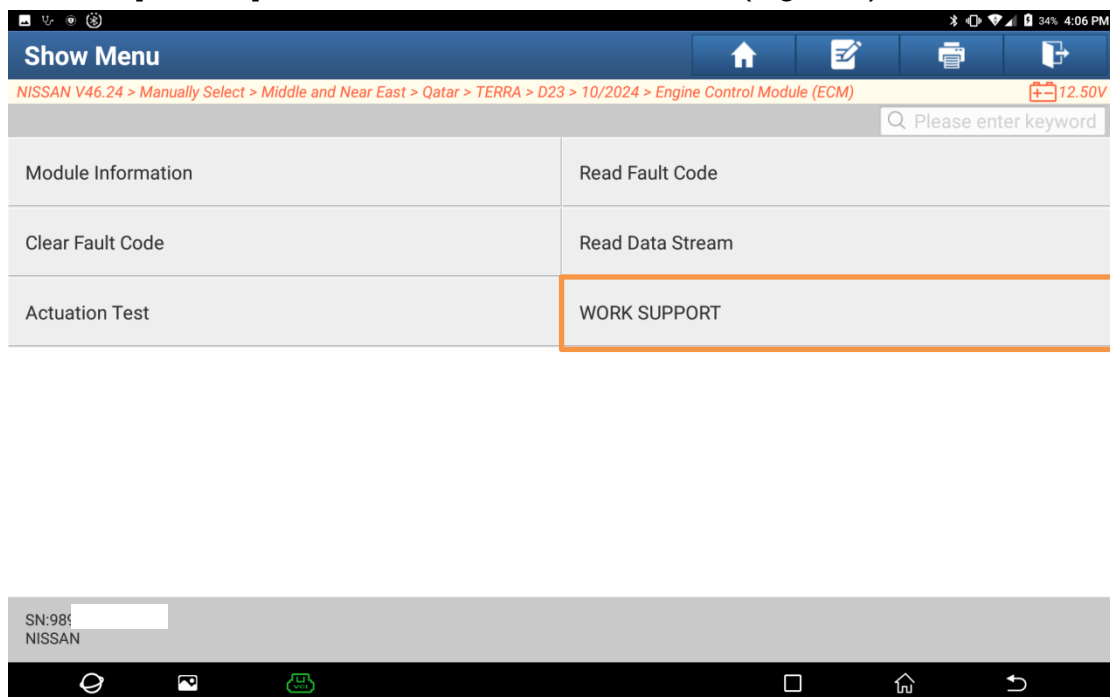

Figure 9
5. Click [ENTER] to enter the ECM menu interface (Figure 9).